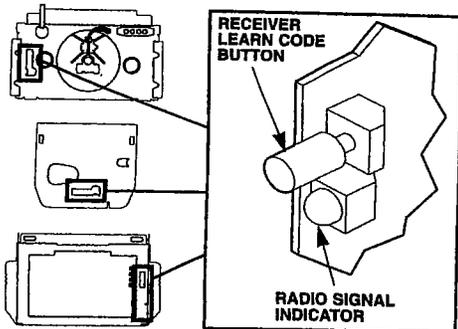

Fig. 1
- Step 2-2** Press and release the Learn Code Button  (Fig. 1).